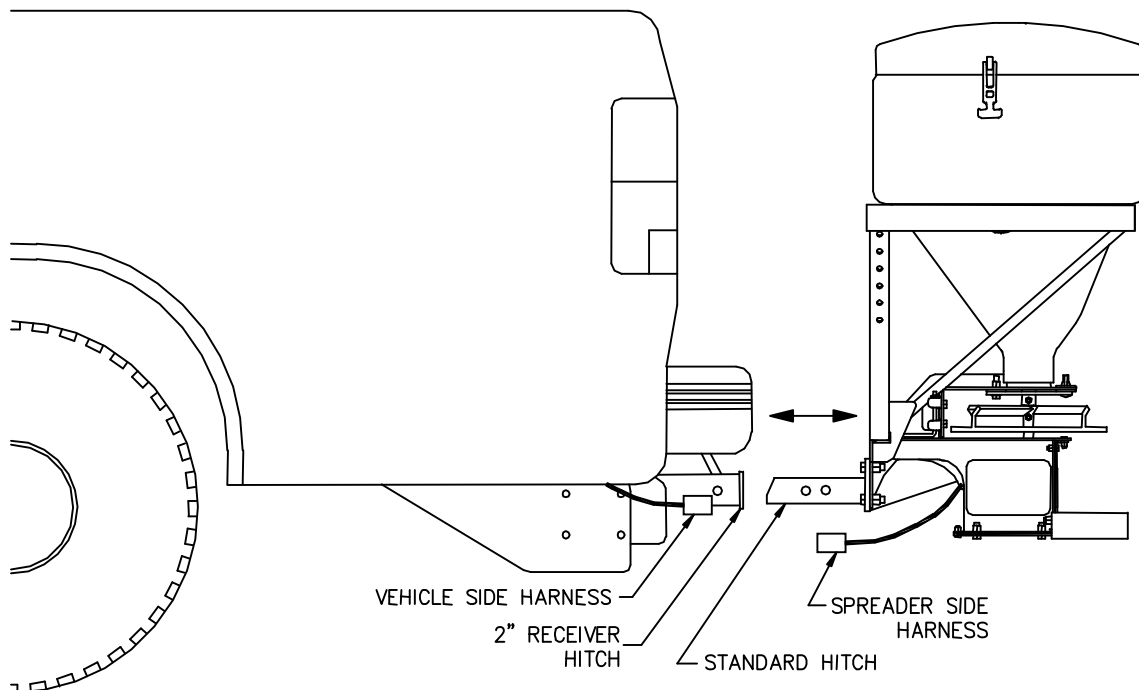

Figure 7. Standard Hitch Attachment Procedure
- 2) Unplug Spreader Side Harness from Vehicle Side Harness (See Figure 7) and install both the vehicle and spreader side weather caps.
- 4) Slide spreader out of 2" Receiver Hitch (See Figure 7).